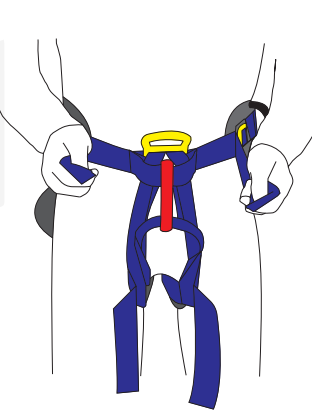

Fig. 5
4. Fit each leg firmly around upper thigh and lock. Fig. 5, A- B & C-D